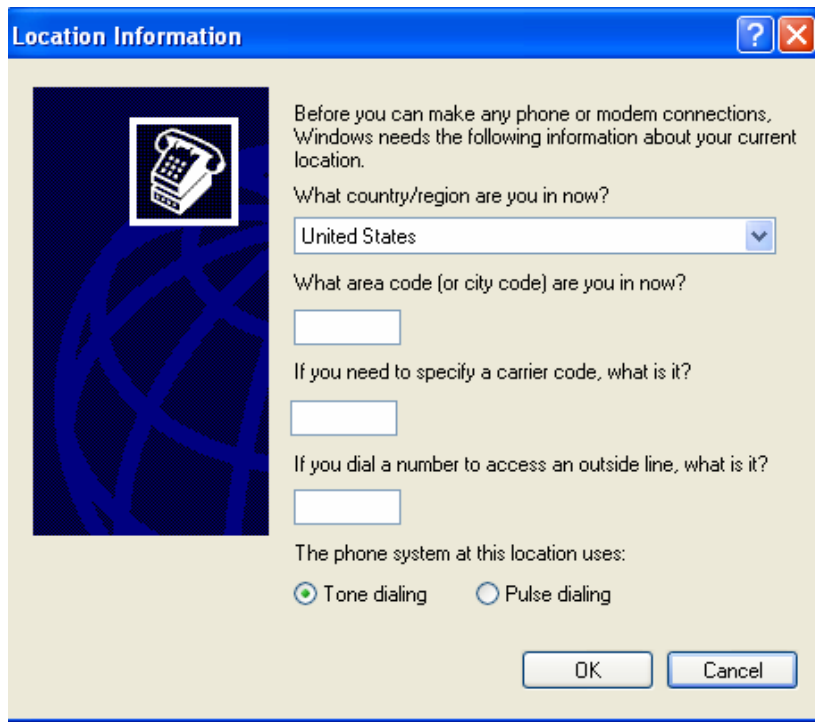

Fig1
1) Enter into start----all programs----accessories-----communications----hyper terminal. Click hyper terminal, fig 1 will pop up. Click cancel and select yes in the pop up dialog. then enter into fig 3.